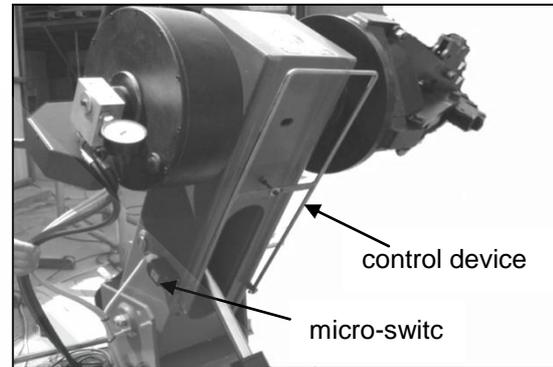

Fig23 Safety micro-switch
3) Safety micro-switch (Fig23)